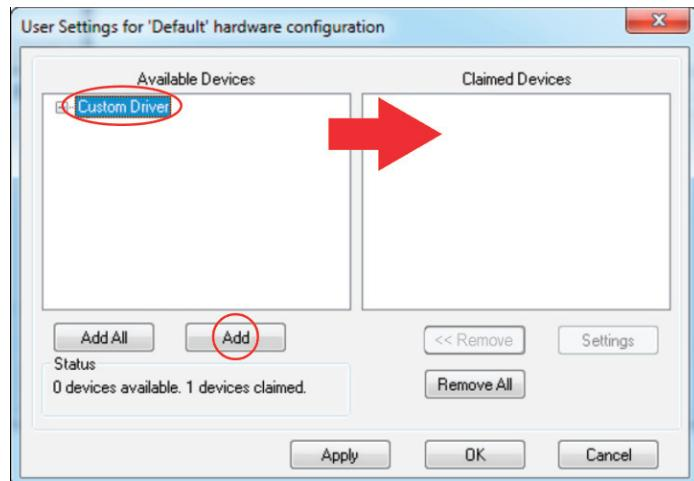

Figure VI-16. Add Custom Driver to Devices
12. Select the directory for Custom Driver from the left table, and click Add to include the component, as shown in Figure VI-16.